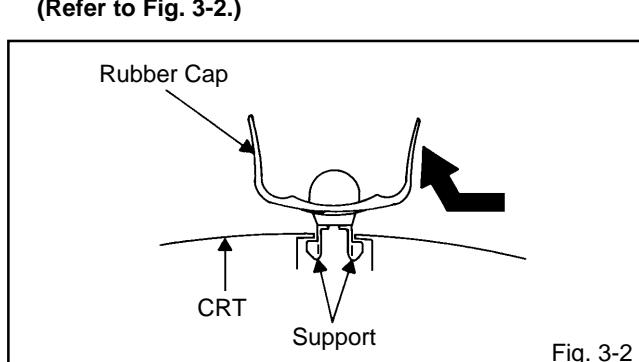

Fig. 3-2
2. Flip up the sides of the Rubber Cap in the direction of the arrow and remove one side of the support. (**Refer to Fig. 3-2.**)